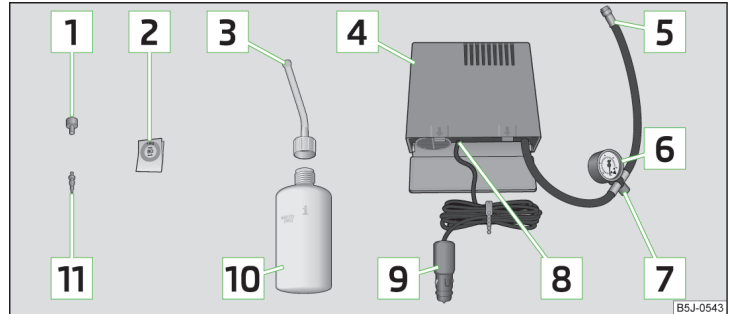

Fig. 152 Principle sketch: Components of the breakdown kit
Components of the set » Fig. 152
- Stick the appropriate sticker  » Fig. 152 on page 170 onto the dashboard in the driver's field of view.
- Shake the tyre inflator bottle  » Fig. 152 on page 170 vigorously several times.
- Screw the air compressor tyre inflation hose  » Fig. 152 on page 170 firmly onto the tyre valve.